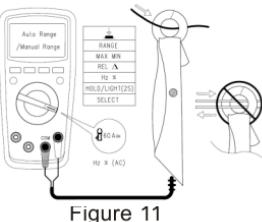

Figure 11
- \*. 60A AC and DC current clamp measurement (See Figure 11). Connect as shown in the figure with the attached current clamp. (Only applicable for UT139C)